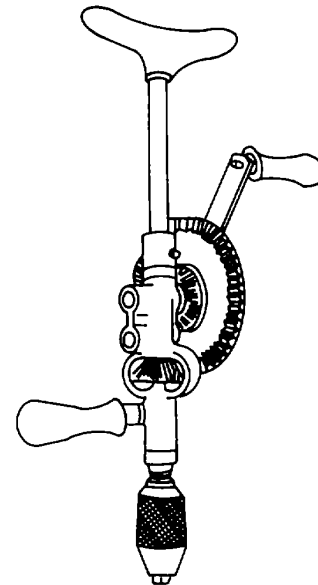

Figure 4-80. Breast Drill
(1) *Breast drill.* The breast drill has a base for the user to lean against while using the drill. It has a speed shifter which provides a means of selecting low or high drill speeds. The low drill speed has a 1:1 gear ratio, and the high speed ratio is 3-1/2:1. This drill, shown in figure 4-80, is used to drill holes in wood, plastic, and small gauge sheet metal.